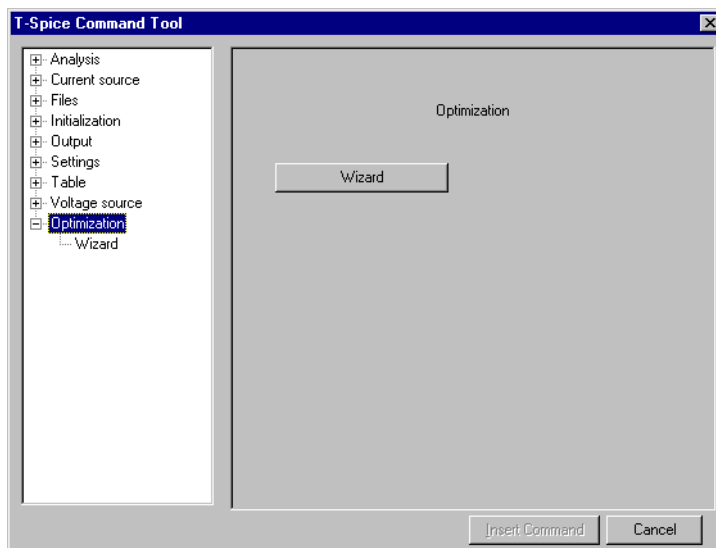

Figure 93: Customizing the optimization
- ☑ In the left-hand tree, double-click **Optimization** (Figure 93).